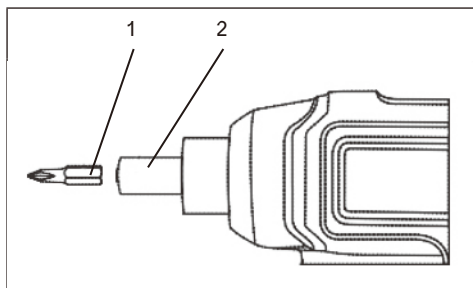

Fig. 4
1. Insert the screwdriver bit (1) into the collet (2) until the bit is securely held in the collet by the magnetized collet (Fig. 4).